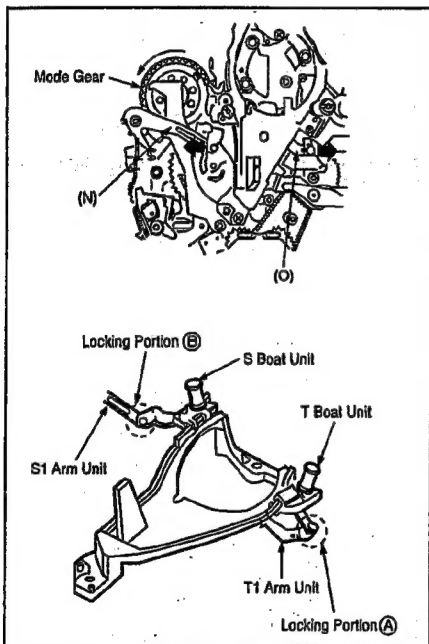

Fig. M22
- Fig. M22 Confirm the hooking portion of the T2 Arm Spring.
12. S1 & T1 Base Fig. M22 Turn the Mode Gear to counter-clockwise until half loading position.